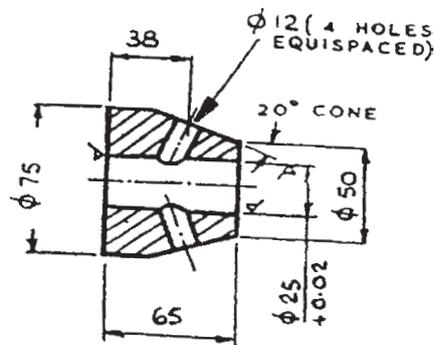

Fig NO.1
- Q11)** Design a jig for drilling 4 holes equispaced of Φ 12 mm holes for a component shown in fig. no.1. [20]